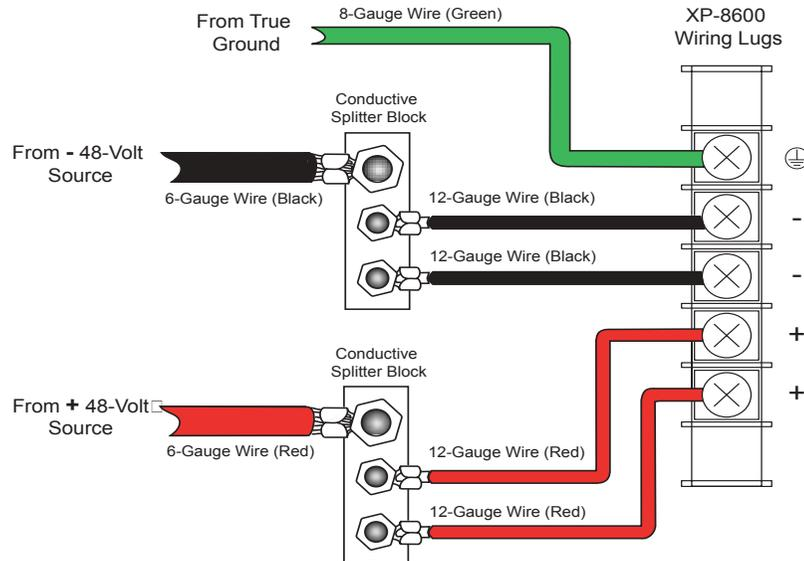
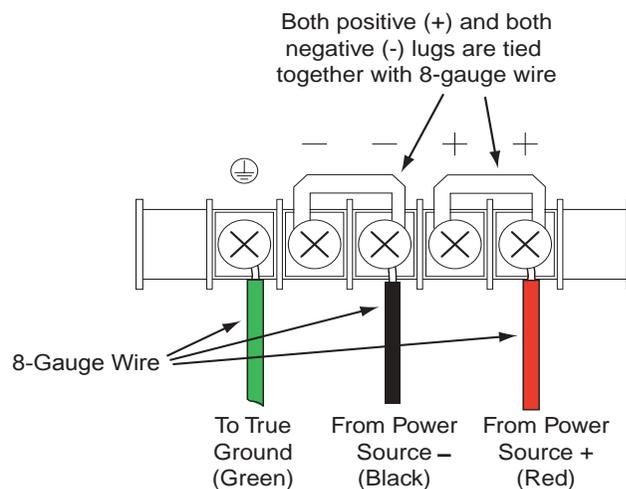

Figure 28. Splitting each source wire to two 12-gauge wires
Figure 29. Tying X-Pedition 8600 DC supply lugs together
7. Connect the DC input wiring to a DC power source. See Figure 28 on page 64 and Figure 29 on page 64 for a diagram of the wiring connections between the X-Pedition and a DC power source.
gauge negative (-) wires are connected to the X-Pedition 8600 DC power supply wiring block. See Figure 28.
An alternate method of wiring the X-Pedition 8600 power supply is to use a single set of 8-AWG wires (+ and -) from the DC source, and then tie the X-Pedition 8600's wiring lugs together: + to + and - to -. See Figure 29.